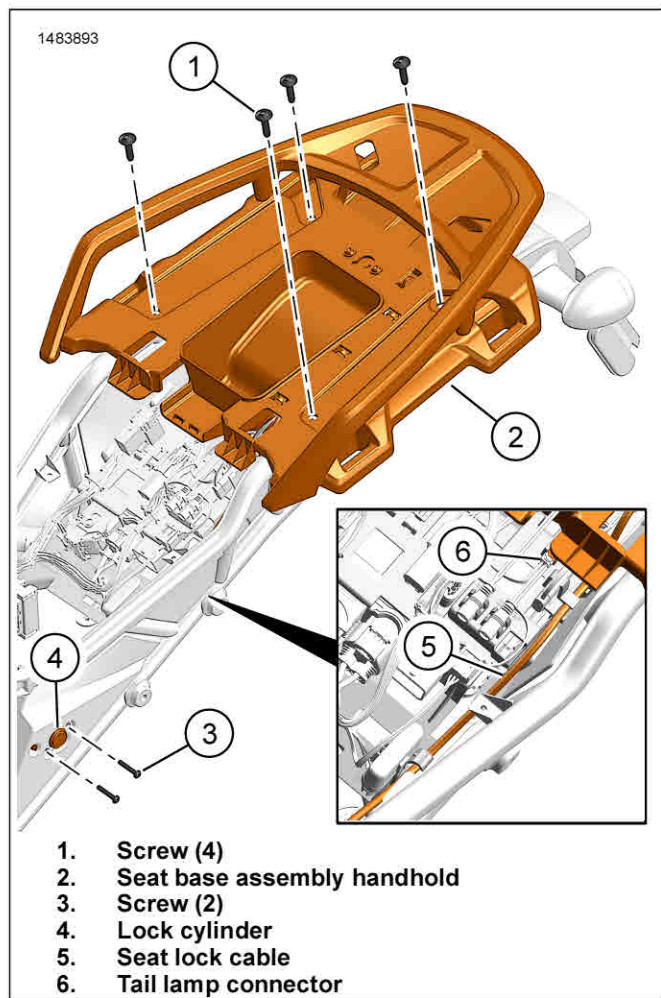

Figure 1. Seat Base Assembly
2. See Figure 1. Remove passenger handhold assembly.
- a. Remove screws (1).
- b. Remove screws (3).
- c. Disconnect tail lamp connector (6).
3. See Figure 1. Install passenger handhold assembly.
- a. Install lock cylinder (4).
- b. Install screws (3). Tighten.